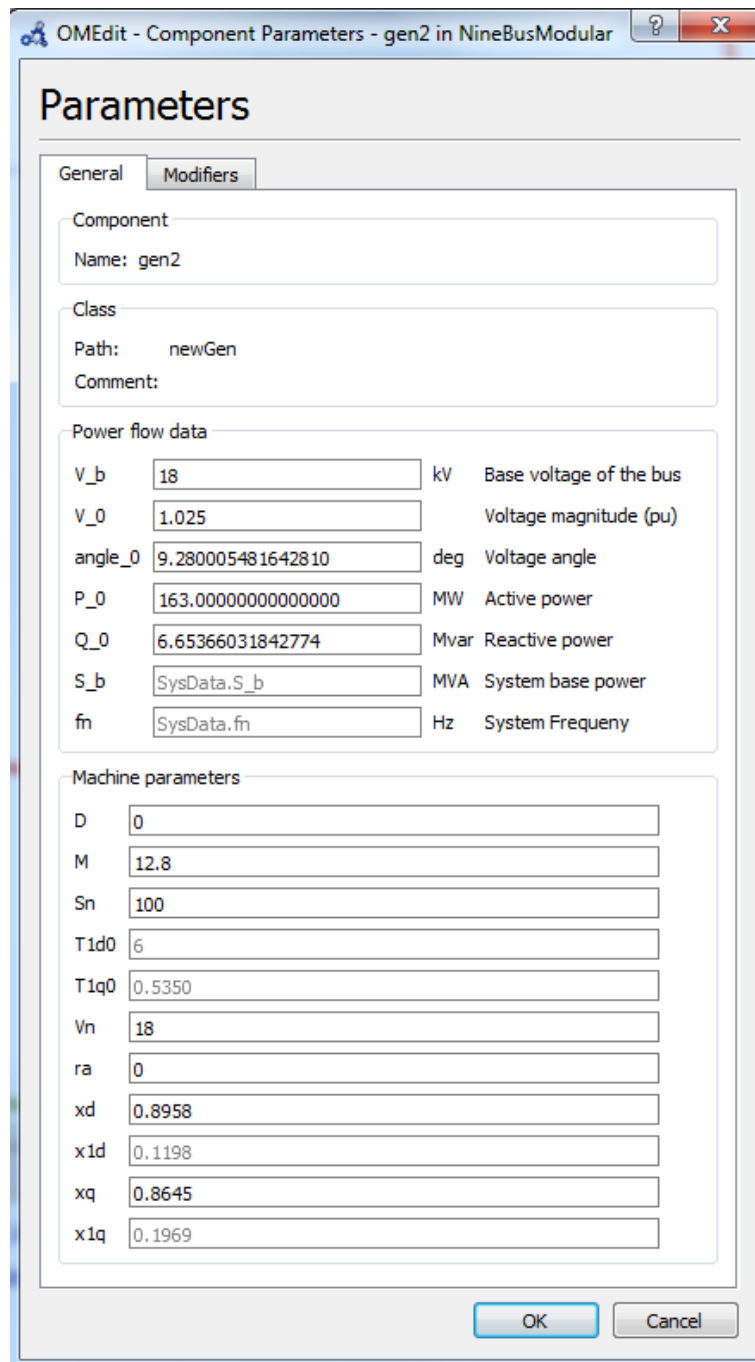

Figure 7: Generator model accessed from network model workspace
3. Drag the **Gen** model from libraries pane to network model workspace. Name it as **Gen1**. When you now open the **Gen1** model from network model workspace, it will show you the parameters of the machine you can set. Your dialog should look like that in Figure 7.